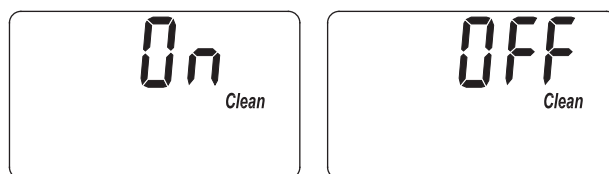

FIG. 28
1. Press and hold the PROGRAM button until the screen in Figure 25 is displayed. Once in this display, press the PROGRAM button twice and one of the two displays in Figure 28 is shown.